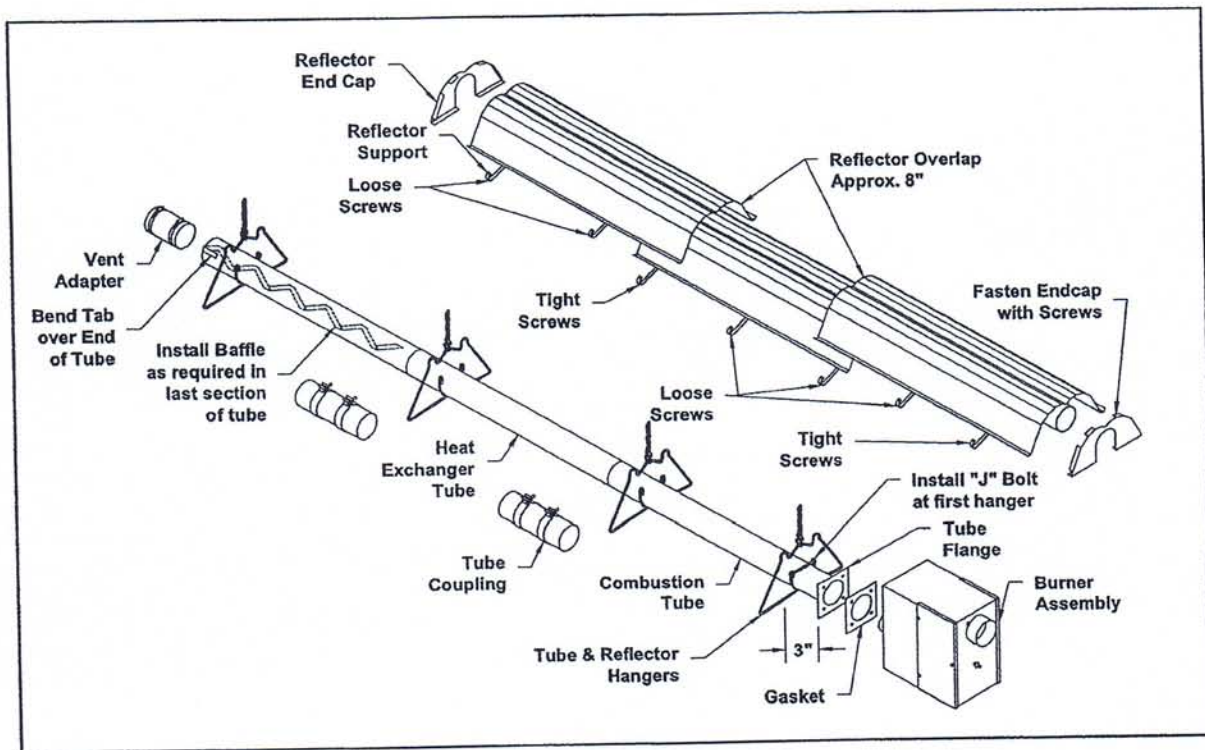

Figure 4: General Overview of Installation
Generally, there is no unique sequence for installation of the burner or heat exchanger. A review of the job site will usually indicate a logical installation order. However, time and expense can be saved if installation is begun at the most critical dimension, watching for interference from overhead doors, cranes, auto lifts etc. Figure 4 provides a general overview of the components utilized in the installation, as well as their general relationship.
- Install End Cap as shown in Figure 4 and the figure below.